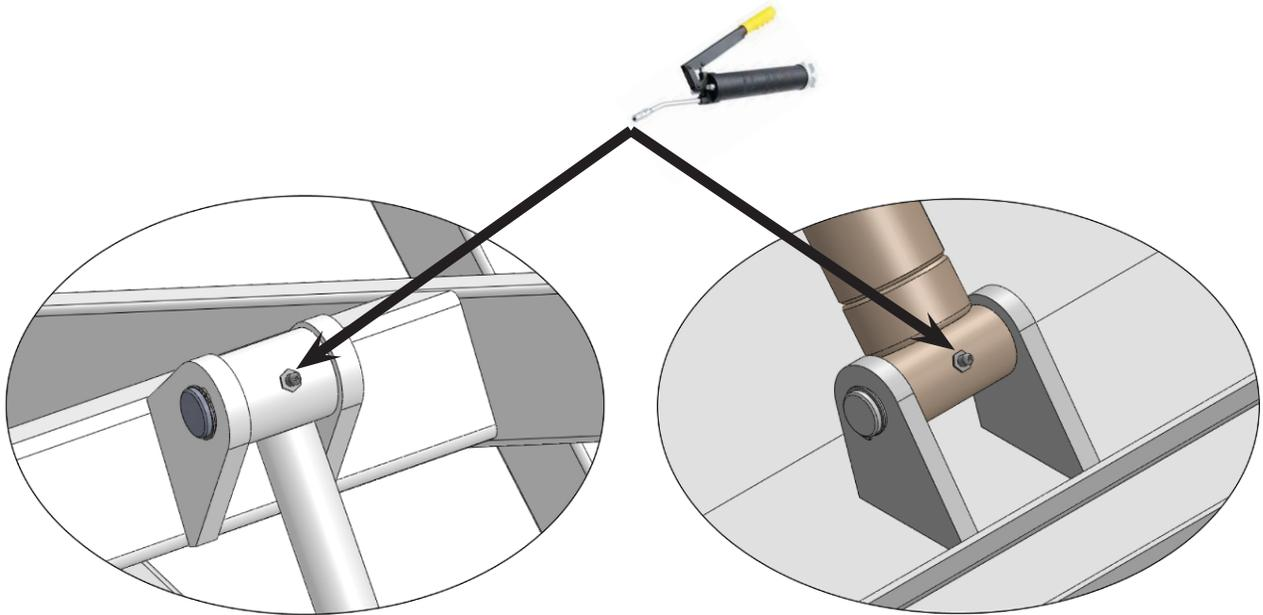

Fig. 18
1. Lubricate all moving parts. (See Fig. 18)